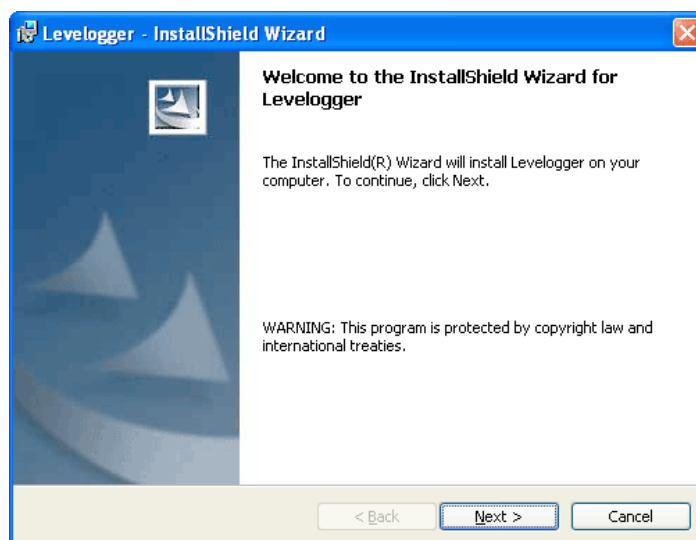

Figure 3-1 Software Installation Wizard
- 3) The Software Installation Wizard will guide you through the remaining installation process. Figure 3-1 shows the Levellogger Installation Wizard.